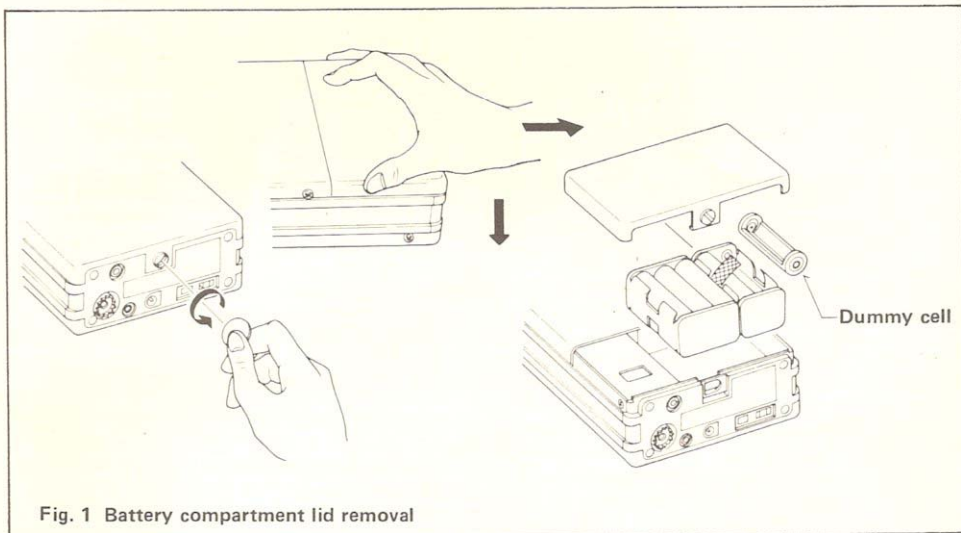

Fig. 1 Battery compartment lid removal
1. Loosen screw (22) on the rear of the unit with a coin and open the battery compartment cover (see Fig. 1).
5. After mounting batteries in the battery holders, install the holders in the battery compartment of the unit as illustrated below. Close the compartment lid and tighten screw (22) with a coin.